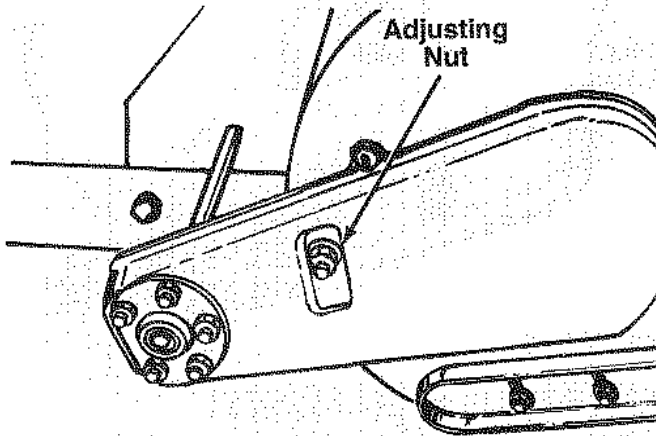

FIGURE 25.
1. Disengage snow thrower and loosen the adjusting nut 2 or 3 complete turns. See figure 25.